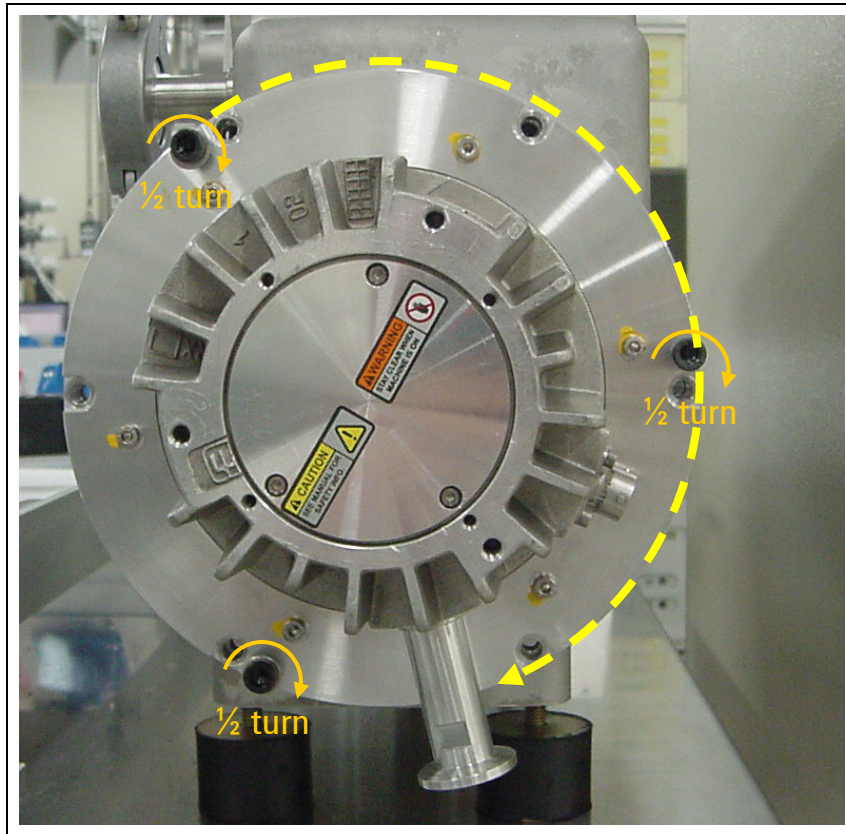

Figure 40
- 4 Screw in the 3 M6 screws clockwise, starting anywhere, half turn/lap (Fig. 40).